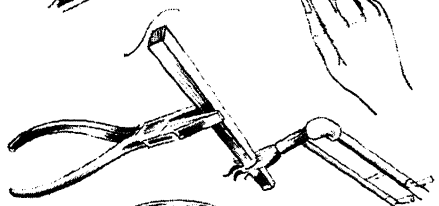

FIG. 9
2. Grip the tool with a pair of pliers and heat the shaped point to a bright red color with a blow torch; then plunge it quickly into a glass of cold water (Fig. 9). The upper end of the tool should not be hardened.